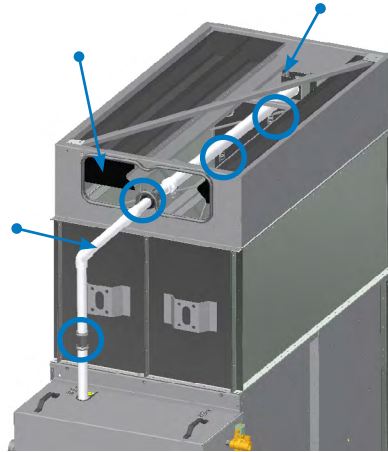

Figure 7. Spray Pipe Install, Upper Pipe and Eliminator Install
3. Align sections using drift pins and secure the two sections together using the factory-supplied fasteners. Note the fastener type varies on the location and the unit's material of construction. See **Figure 7** and **Table 3** on page 10 for more details. Repeat as necessary for all modules of the unit.
3. **For Figures 1c and 1d:** If it is still in place, remove the access panel from the spray section, saving the hardware. Install the water distribution system pipe between the two rubber couplings (see **Figure 7**). Slide the pipe into the bracket and ensure the nozzles are pointing downward. Place and install two rubber couplings at the top and bottom of the spray pipe. If they were removed, replace the eliminators into the spray section, noting the original location and orientation. Replace the access panel (see **Figure 4**). Repeat as necessary for all modules of the unit.